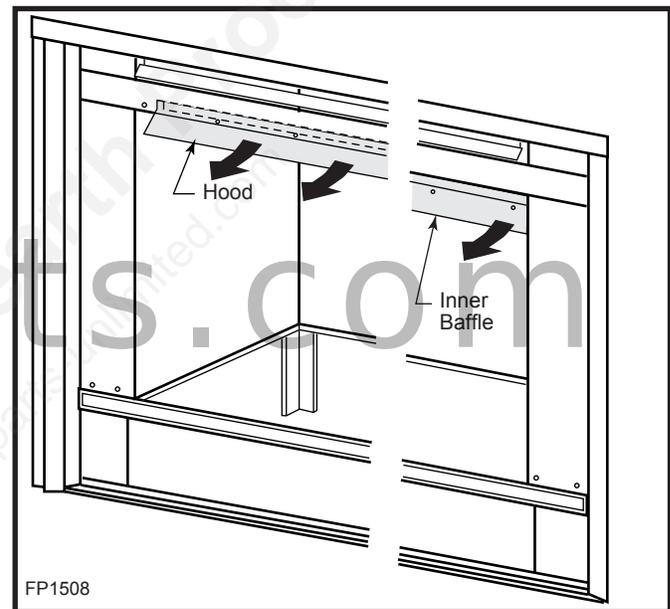

Fig. 30 Remove the decorative burner hood and inner baffle.
5. Remove the hood and inner baffle. (Fig. 30)